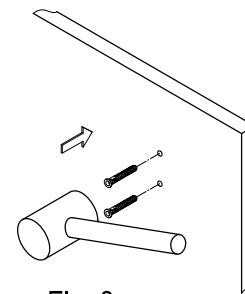

Fig. 3
- Step 5. Hammer in the drywall anchors until flush with the wall (fig 3).